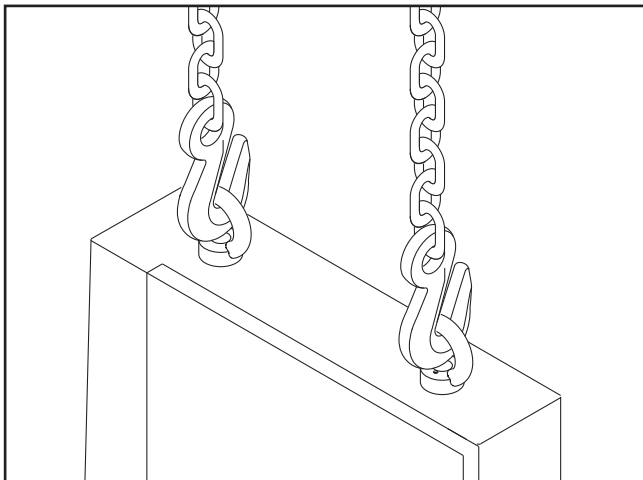

Figure 7. Lifting the bandsaw.
3. Install eye bolts shown in **Figure 7**, making sure they are threaded all the way in, then place lifting hooks through eye bolts and lift slowly with a forklift.